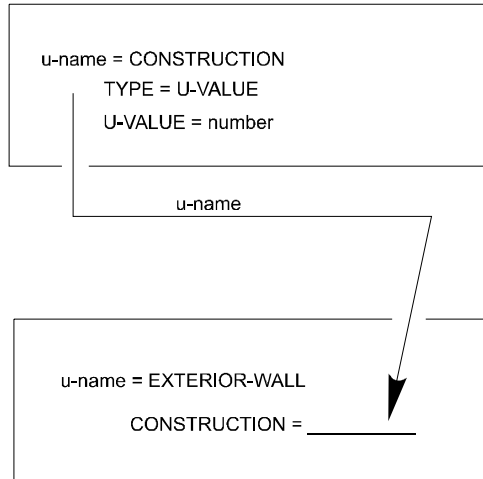

Figure 17 Specifying a "quick" EXTERIOR-WALL
1. Use TYPE = U-VALUE and enter a value for U-VALUE in the CONSTRUCTION instruction (specify nothing for the LAYERS keyword). Then refer to the CONSTRUCTION instruction, by its U-name, in the CONSTRUCTION keyword of an EXTERIOR-WALL instruction. This will yield a steady-state, or "quick", exterior wall (see Figure 17).